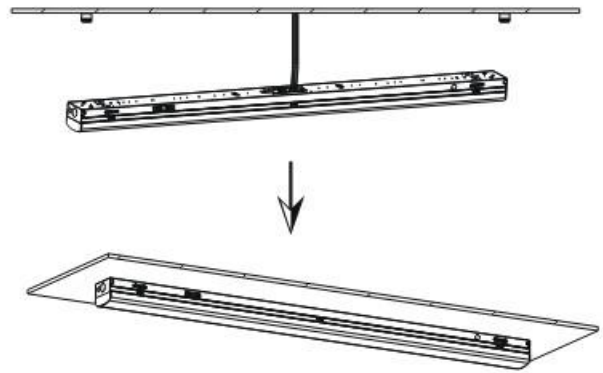

Fig. 4
Step 4. After wiring is complete, screw the back cover onto the fixture, then push the fixture up into the mounting clips (Fig. 4).